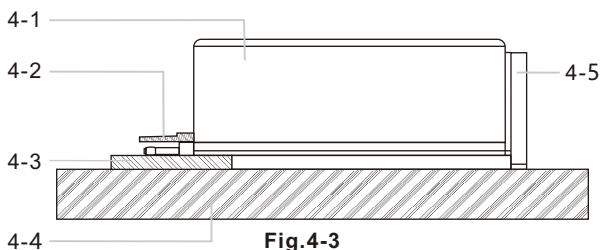

Fig.4-3
J. Adjustable leg and sheath of sensor When the measured surface of the part is smaller than the measured surface of the part is smaller than the bottom surface of the instrument, the sheath of sensor and adjustable leg can be used for auxiliary support to complete measurement. (as shown in Figure 4-3)